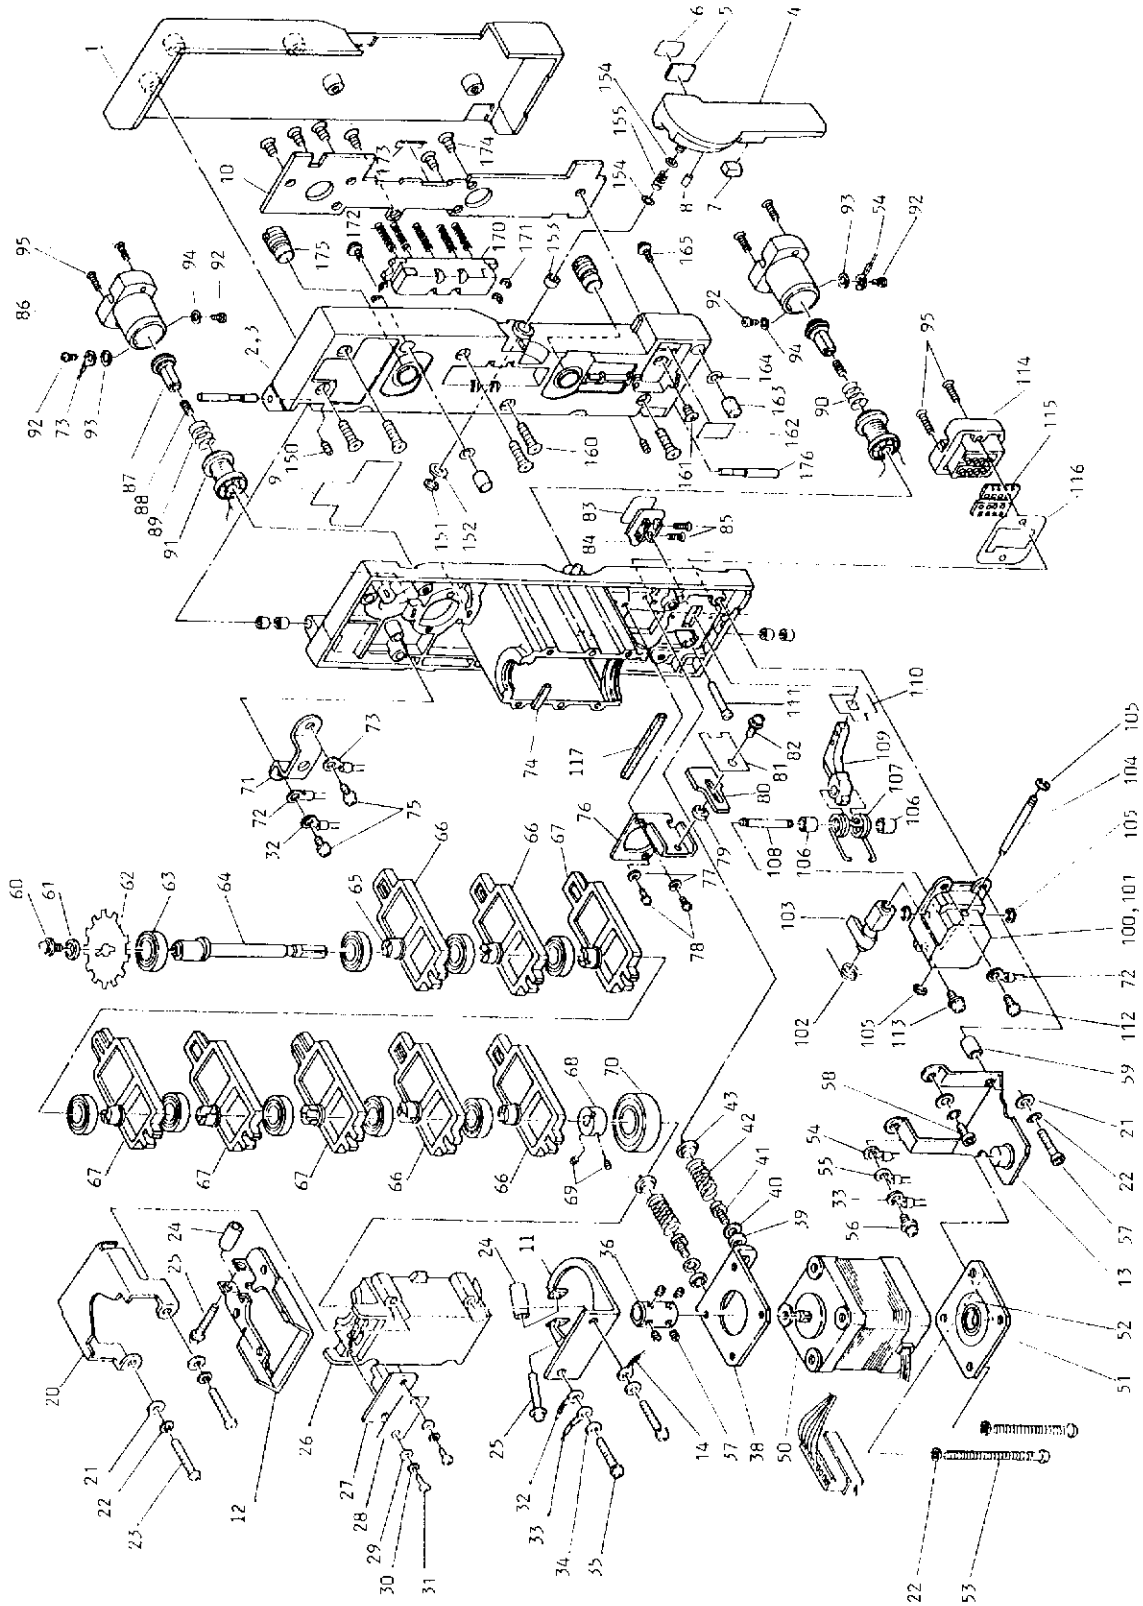

Figure 8-7. Pump Head 1 Assembly
**Parts list for Figure 8-7**
### Parts list for Figures 8-7 and 8-9